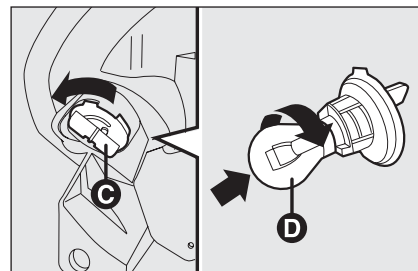

fig. 15
- remove the cover/bulb holder **C**-fig. 15 turning counterclockwise;